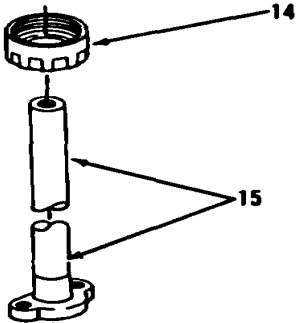

Figure 17-22.
- 9. Separate crown (14) and rod (15, Figure 17-22).
- 1. Install crown (14) on rod (15, Figure 17-22).